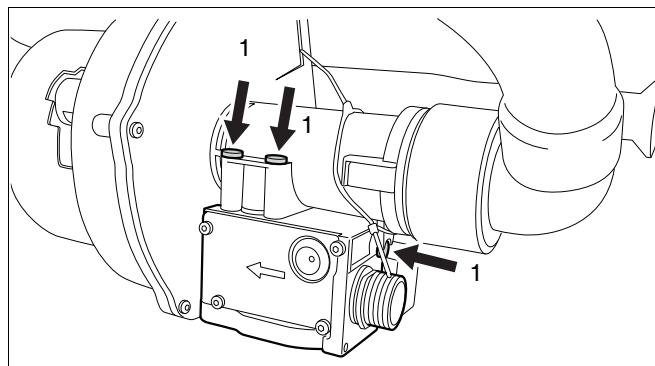

fig. 46 Loosening the screws
- Loosen three screws on the gas control valve (see fig. 46, pos. 1).